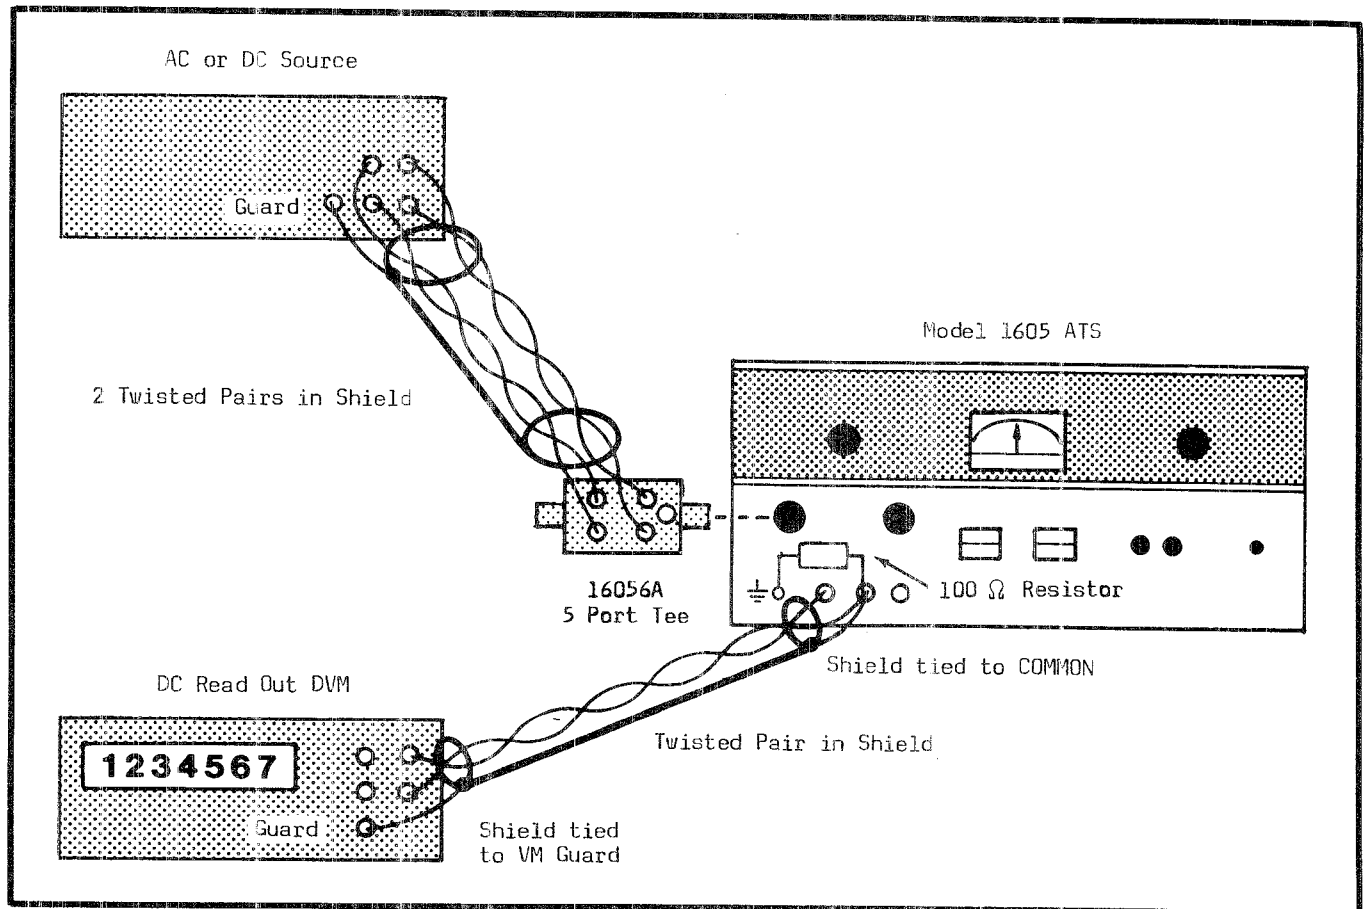
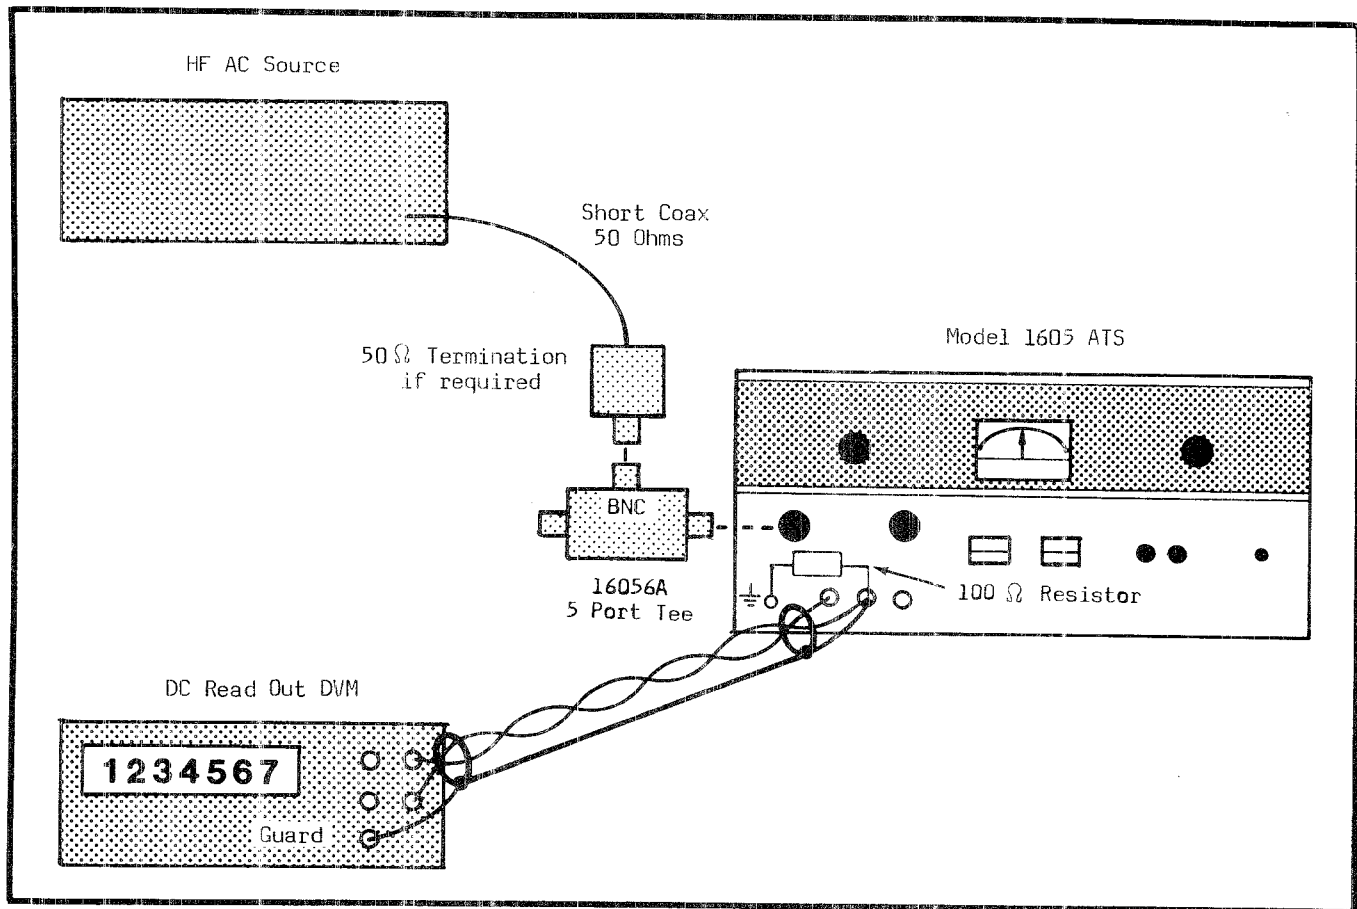

Figure 3-3. Equipment Interconnections DC to 1 MHz
Figure 3-4. Equipment Interconnections > 1 MHz
the Solartron Model 7071 (or equal) are recommended. See Figure 3-3 for equipment interconnection details.
panel). See Figure 3-3 and 3-4.
a. Determine the frequency of the ac voltage to be measured. If the frequency is below 1 MHz and is derived from a sensed source, use the Model 16051A Four Port Tee Connector and connect the test set-up of Figure 3-3. When the frequency of the input signal to be measured is above 1 MHz, use the Model 16052A Tee Connector and connect the test set-up of Figure 3-4. Observe all the initializing instructions of paragraph 3-43. If the unknown input voltage is known to be below 32V rms, use the LO INPUT. If it is unknown or above 32V rms, use the HI INPUT connector and connect the auxiliary dc voltmeter to the corresponding DC OUTPUT connectors.
c. When calibrating a stable ac source connect the test set up of Figure 3-3 if the ac source is sensed and in the frequency range to 1 MHz. Use Figure 3-4 if the ac source frequency is above 1 MHz. The ac source which is to be calibrated is considered the unit under test (UUT).